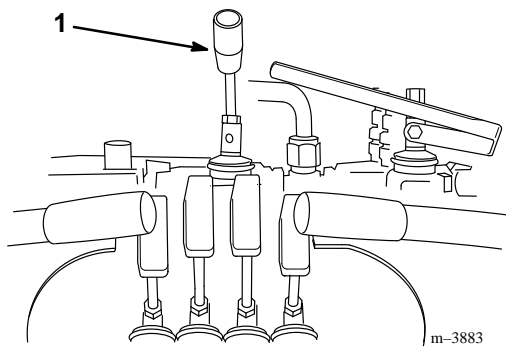

Figure 3
1. Thread the lever into the pump selector valve (Fig. 3).